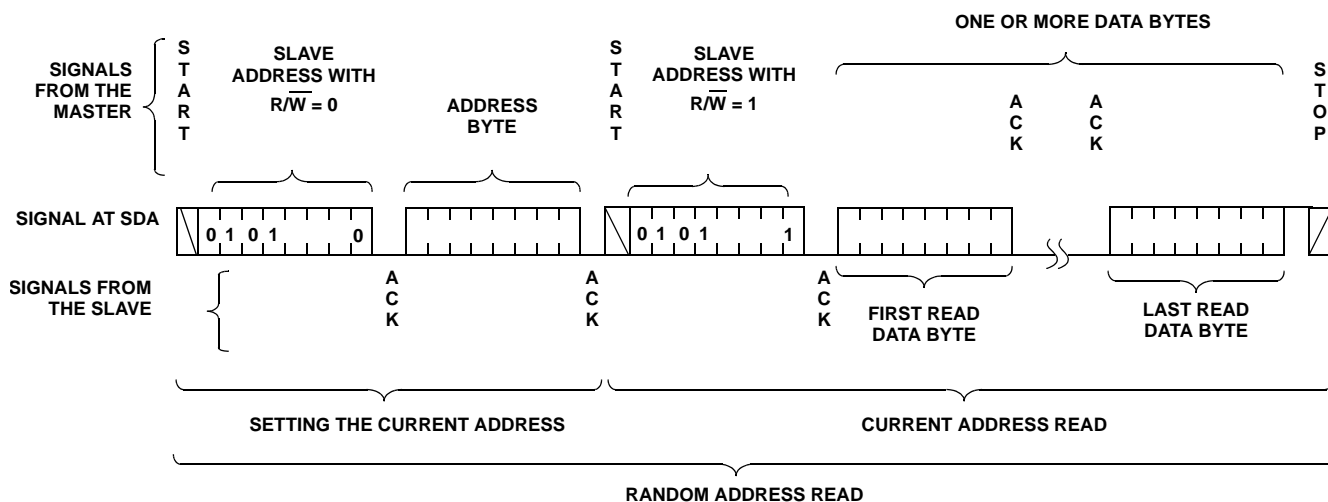

FIGURE 9. MOVE/READ SEQUENCE
14. Access the desired DR or WCR using a new write or read command (see Figure 7 for write and Figure 9 for read.)
The Move/Read operation simultaneously reads the contents of a Data Register (DR) and moves the contents into the corresponding DCP's WCR and the WCRs of all DCPs are updated with the content of their corresponding DR. Move/Read operation consists of a one byte, or three byte instruction followed by one or more Data Bytes (see Figure 9). To read an arbitrary byte, the master initiates the operation issuing the following sequence: a START, the Slave Address byte with the R/W bit set to "0", an Address Byte, a second START, and a second Slave Address byte with the R/W bit set to "1". After each of the three bytes, the X9252 responds with an ACK. Then the X9252 transmits